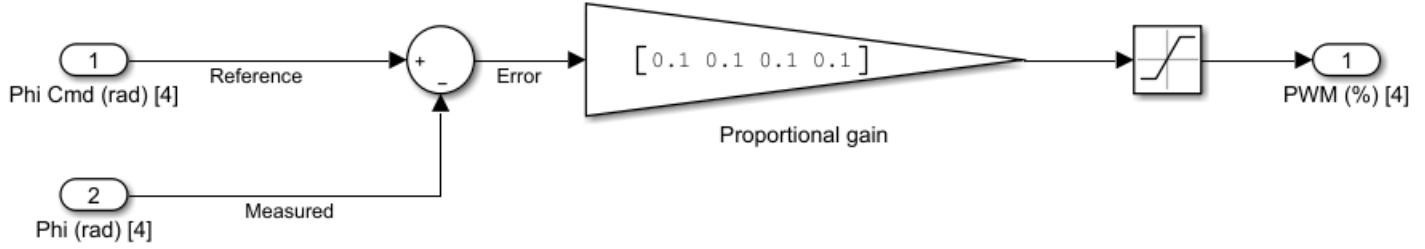

Figure 2.2 Proportional Controller
3. Now that Simulink is configured correctly, you will need to build a proportional controller, so that you have a closed-loop feedback system. Open the Controller subsystem and connect the blocks according to Figure 2.2, ignoring the integrator, derivative and 3 input sum blocks. Also, ensure that the Cmd Select constant at the root level of your Simulink model is set to 1.